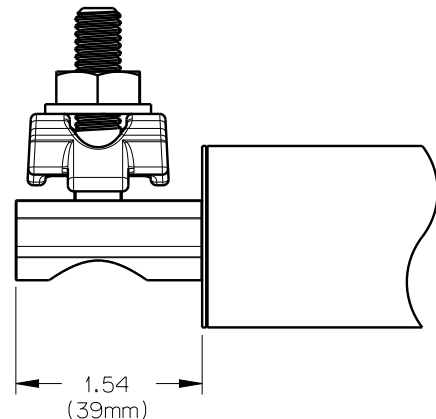

Figure 16. Medium parallel-groove terminal (#8-2/0 cable sizes). (-P)
1. Assemble hex bolt, terminal clamp, and hex nut on the spade adapter as shown in Figure 16.